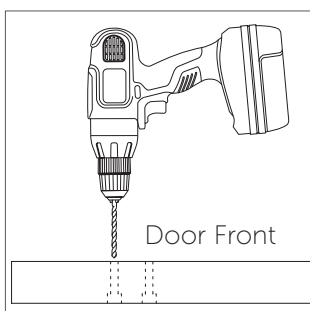

Figure 5
8. Turn the door over, returning it to the face-up position. Drill all the way through the pilot holes using a drill with a 3/8" drill bit (Figure 5).
9. Install remaining spacers with lag screws and washers using a 9/16" socket wrench (Figure 5). Tighten all lag screws.